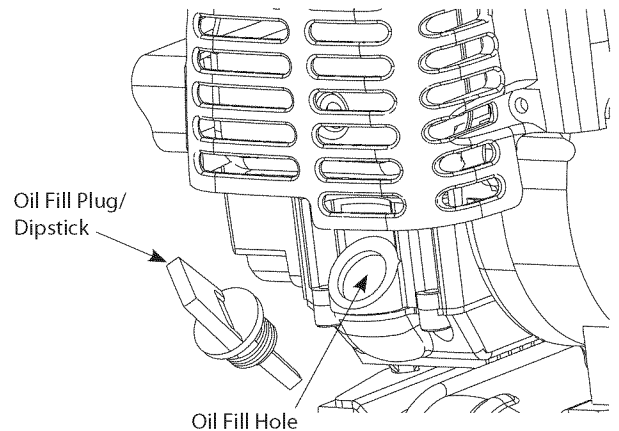

Fig. 17
6. If the level is low, add a small amount of oil to the oil fill hole (Fig. 17) and recheck. Repeat this procedure until the oil level reaches the full mark of the dipstick.
Check the level with the dipstick. If the level is low, add a small amount of oil and recheck. Do not overfill (Fig. 17).